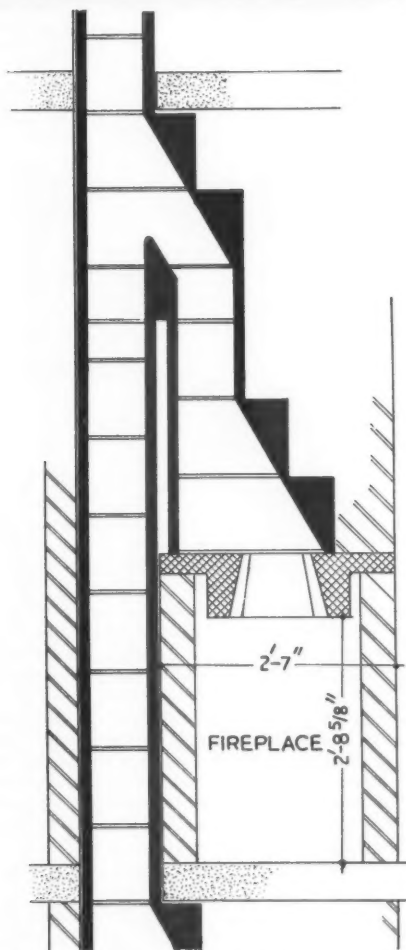

Fig. 19. Section showing typical construction of shunt or branched flues
**Branched Flues.** Reference was made at the Symposium on High Flats held earlier this year (see R.I.B.A. JOURNAL, March 1955) to the experiments being conducted by the L.C.C. in the design of shunt or branched flues. Two stacks of branched flues with open fires (Fig. 19) are being built in a 5-storey block and two stacks with openable closed stoves in a 10-storey block. If these experimental branched flues prove successful it is estimated that in future